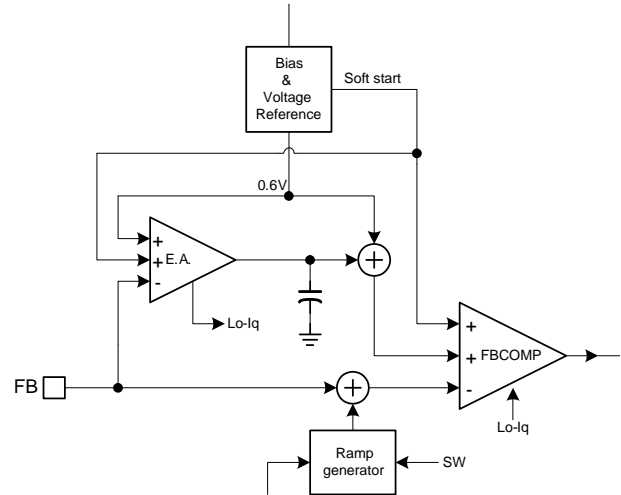

Figure 2: Operation Blocks at Sleep Mode
The MP2164 features sleep mode to achieve high efficiency at extremely light loads. In sleep mode, most of the circuit blocks are turned off except for the error amplifier (EA) and PWM comparator. This reduces the operation current to a minimal value (see Figure 2).